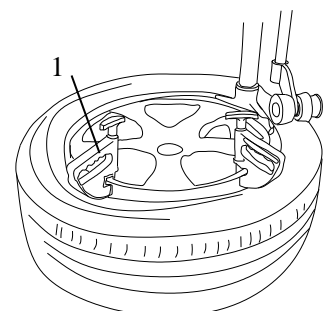

Fig 12
2. Make tyre top bead upon rear of demounting/mounting head and below front of demounting/mounting head, move right pressing arm and make sure it is locked, pull handle D down to make roller C,G to press top bead to position below demounting/mounting head. Lock pressing block 1 on rim edge, rotate turntable, finish tyre mounting. (Fig 12)